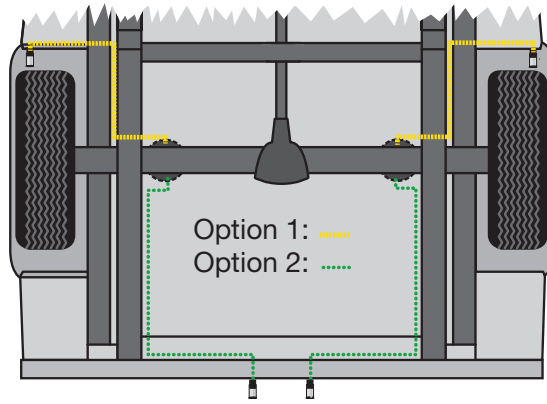

fig. 11
1. Choose a convenient location for mounting the inflation valves (Fig. 11). Popular locations for the inflation valve are: